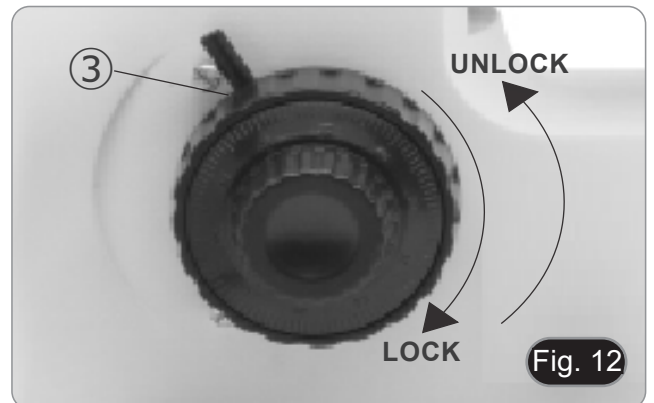

Fig. 12
1. After focusing the specimen, pull the lever ③ toward the front of the microscope and lock it. (Fig. 12)